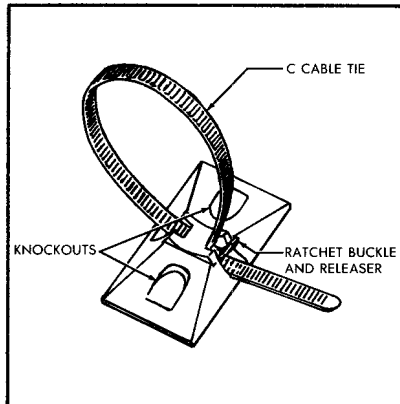

FIGURE 7. Adhesive Cable Tie
7. ADHESIVE CABLE TIE (FIGURE 7)